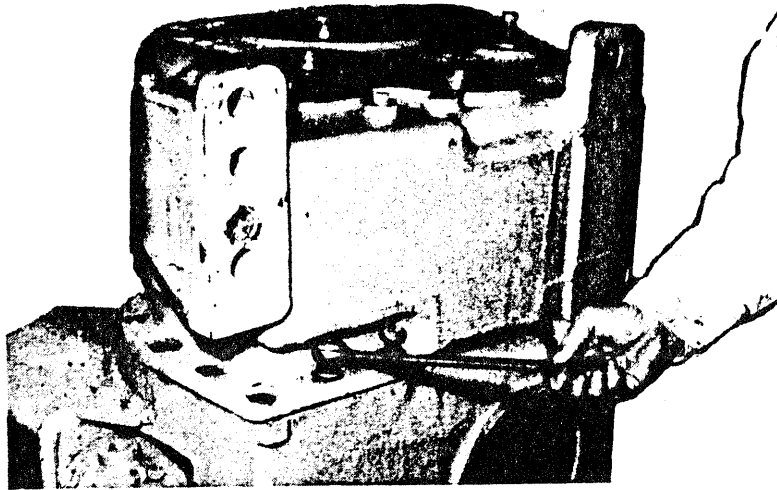

Figure 19
1. Remove securing capscrews as shown in Figure 19.